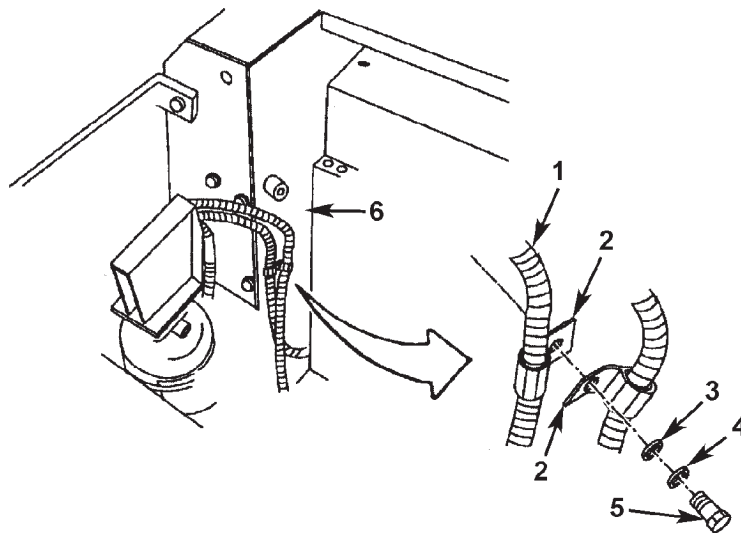

Figure 65. Blade Folder Hose Clamps (1 of 2).
Step 2 applies to Figure 65.
2. Secure two blade folder hoses (item 1) with two clamps (item 2), one flat washer, (item 3) new lock washer (item 4), and screw (item 5) to hole on hull plate (item 6) next to right side fire extinguisher.